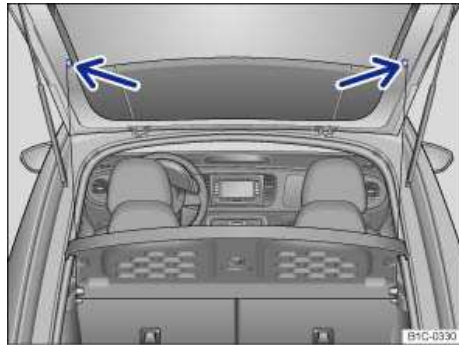

Fig. 88 On the rear hatch: Installing and removing the supporting cords.
- Unhook the supporting cords from each side of the rear hatch ⇒ fig. 88 (arrows).
- Hook the supporting cords onto the rear hatch ⇒ fig. 88 (arrows).